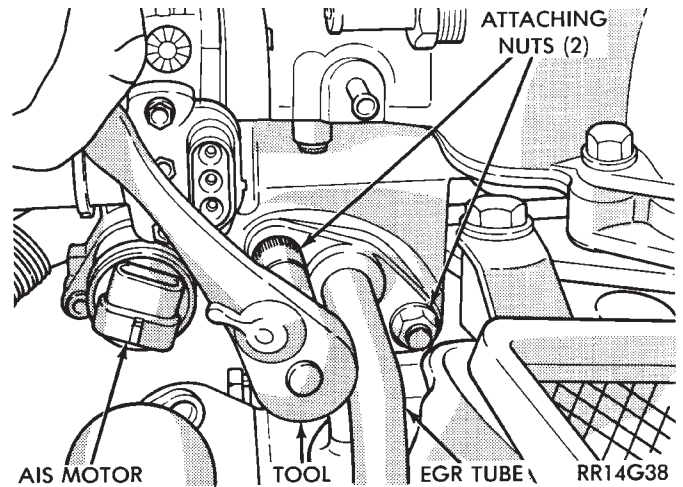

Fig. 8 EGR Tube to Intake Plenum
(8) IF equipped with EGR, remove the EGR tube flange from intake plenum (Fig. 8).